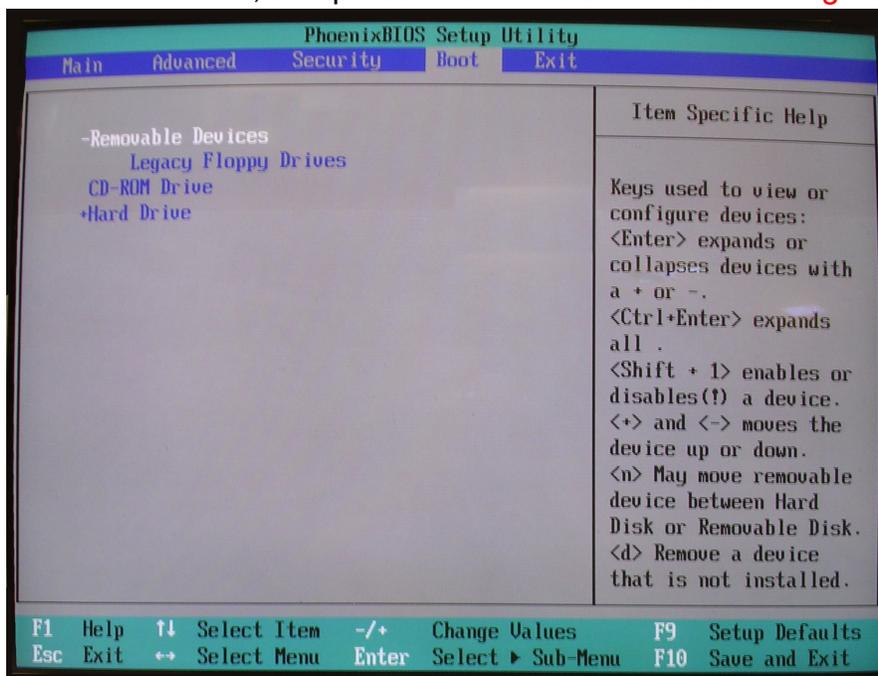

Figure 6-15. BIOS Boot screen
- Use the keyboard's arrow keys $\leftarrow \rightarrow$ to cursor left-to-right to the **BOOT** menu, and press **Enter**. The screen seen in Figure 6-15 appears.